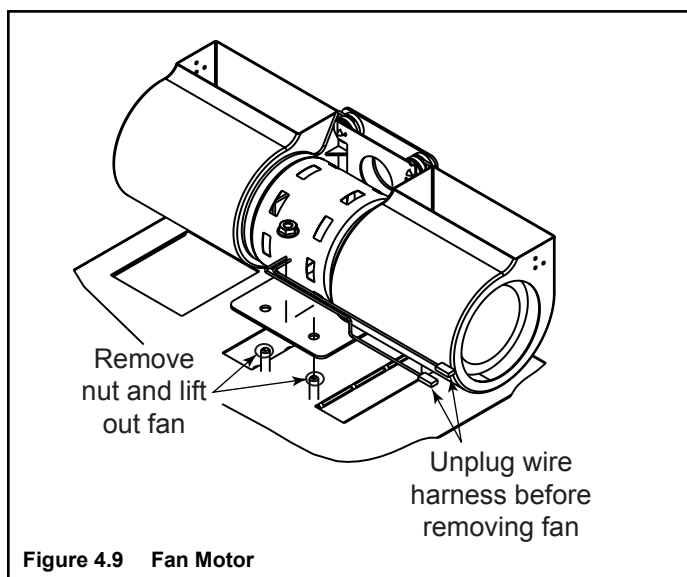

Figure 4.9 Fan Motor
- Lift fan from locating pins and remove (Figure 4.9). Repeat for second fan if necessary.